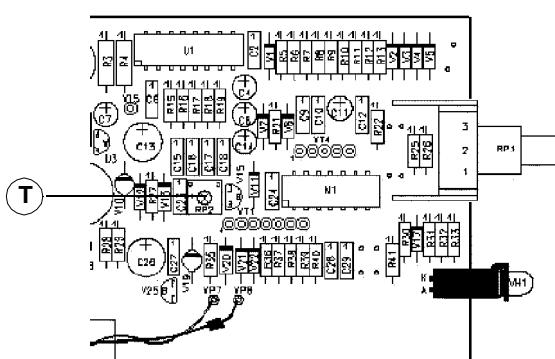

**FIG. 10 RIF. 1**
- on the electronic board (ref. 1) short-circuit points U, T and a rheophore of the primary circuit of the transformer (fig. 10)